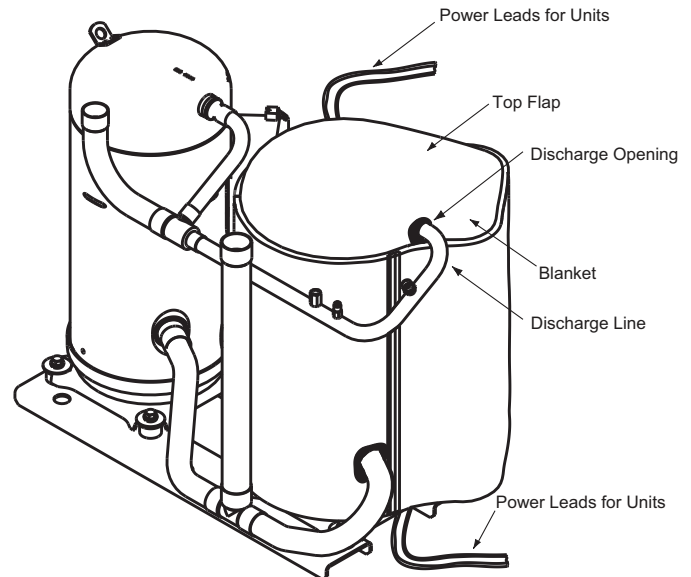

Fig. 6 — Attach Top Flap of Blanket with Hook and Loop Strip for Single and Tandem Compressors
8. Attach top flap of blanket with the hook and loop strips while aligning the discharge opening with the discharge line. See Fig. 6 for single compressors and tandem compressors.